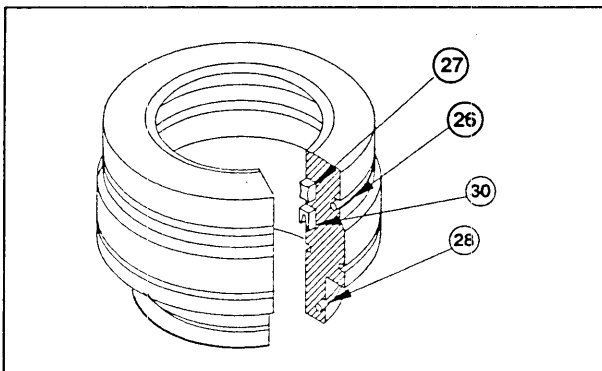

Figure 9.
6. Apply grease and install the rod seal (30) into the seal carrier (29). See figure 9.
7. Apply grease and install the modified quad ring (gas seal) (27) into the seal carrier. See figure 9.
8. Apply grease and install the o-rings (27 & 28) into the grooves on the seal carrier. See figure 9 for proper locations.